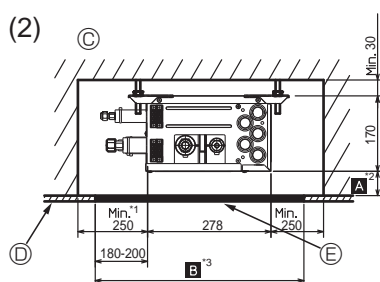
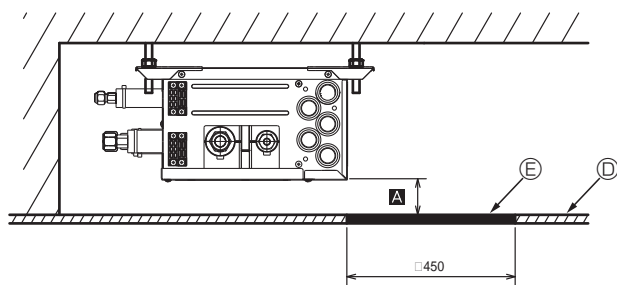
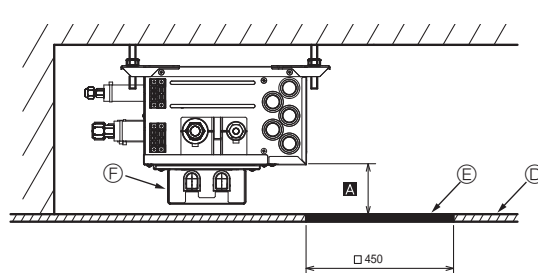

Fig. 2-2
Fig. 2-3
Fig. 2-4
#### (2) Side View (Fig. 2-2, Fig. 2-3, Fig. 2-4)
To install the optional reactor box, set Ⓐ to Min 270 mm <recommendation>. (Fig. 2-4)
In the case of "450 mm", prepare a maintenance hole at a PCB side (as it is shown in Fig. 2-3, Fig. 2-4), and "Min 300 mm" is needed as distance Ⓐ.